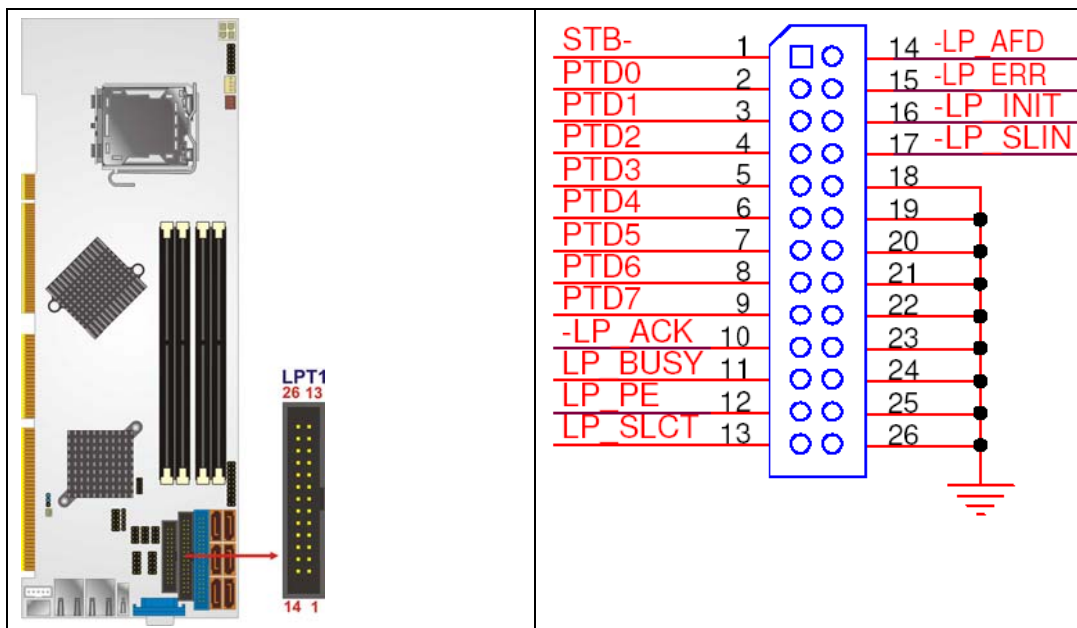

Figure 4-11: Parallel Port Connector Location
- CN Location:** See **Figure 4-11**